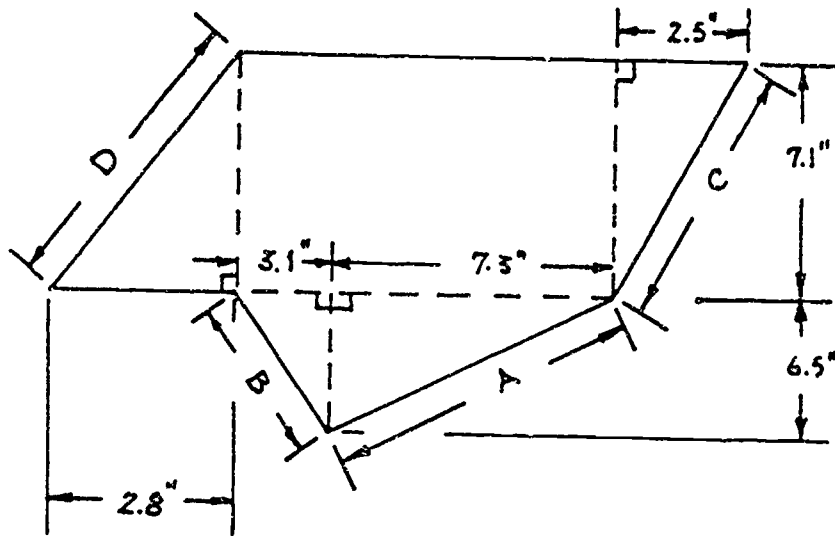

Figure 22: Find the missing dimensions A, B, C and D.
7. Your boss wants you to layout the gage block shown in Figure 22. Find the missing dimensions to the nearest tenth of an inch.